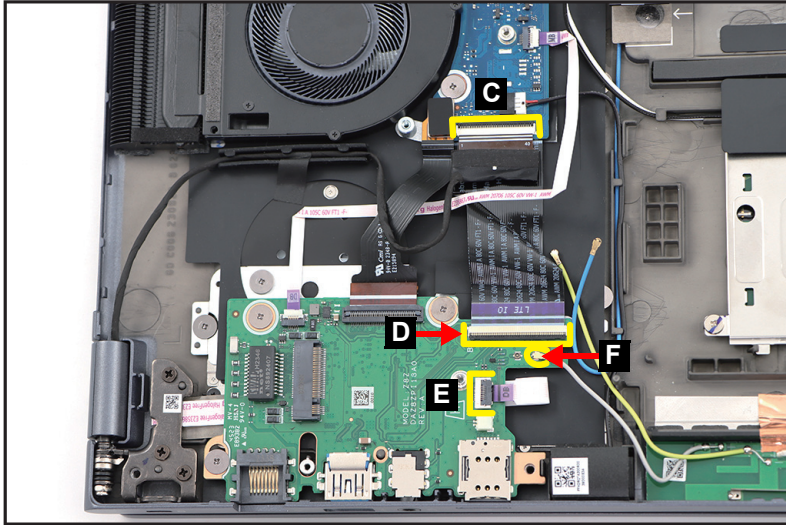

Figure 1-46. LTE Board Removal
3. Disconnect the sensor cable from the mainboard connector (C) (Figure 1-46).
4. Disconnect the LTE board FFC from the LTE board connector (D) (Figure 1-46).
5. Disconnect the fingerprint FFC from the LTE board connector (E) (Figure 1-46).
6. Disconnect the LTE antenna cable from the LTE board connector (F) (Figure 1-46).